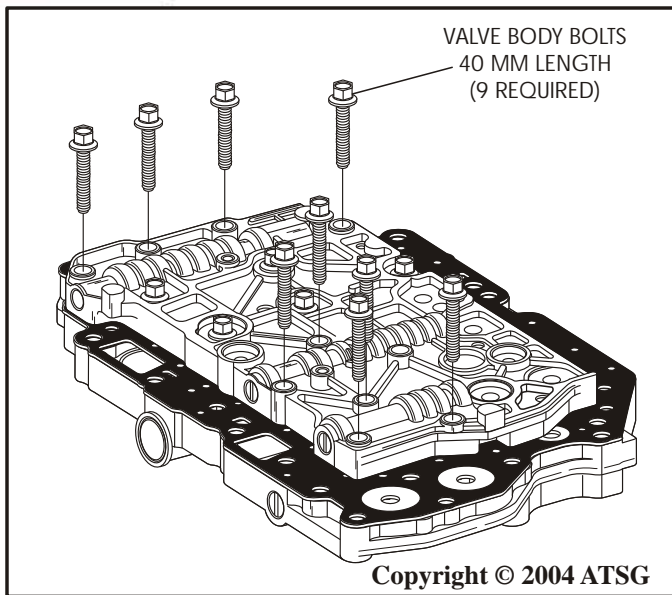

Figure 107
14. Install 9 valve body bolts 40 mm length, in the positions shown in Figure 107, and just finger tighten at this time.